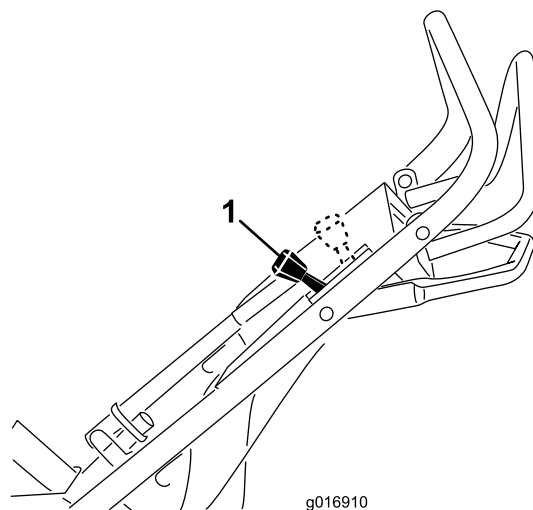

**Figure 9**
2. Open the fuel valve by turn it in-line with the fuel hose (Figure 9).